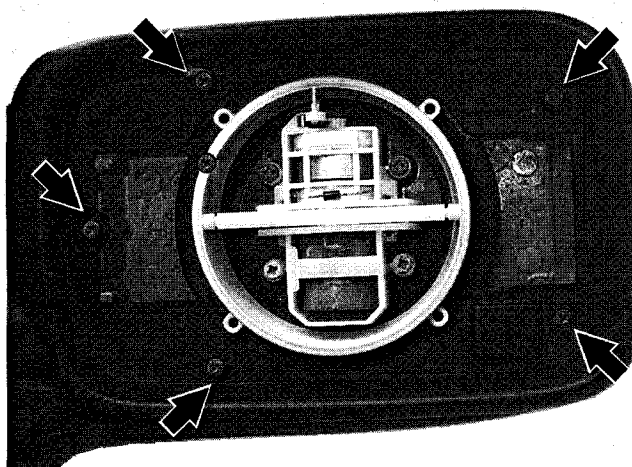

Fig. 2. Mirror housing retaining screws (**arrows**).
2. Remove housing retaining screws and lift off rear housing. See Fig. 2.